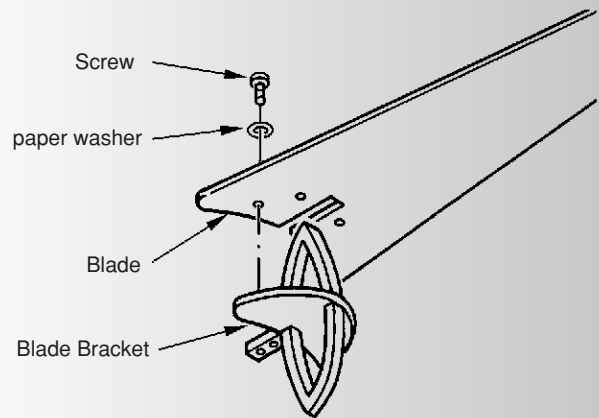

Fig. 16
Step 1. Attach the blade to the blade bracket using the screws and washers provided. Refer to Fig. 16 as needed. Start each screw into the bracket. Repeat for the two (2) remaining screws.
Step 3. Insert the blade assembly into one of the slots on the blade bracket ring, align the mounting holes on the blade bracket ring with the mounting holes on the inside of the bracket ring and insert two (2) mounting screws and tighten securely. Repeat this procedure for the remaining Two (2) blade assemblies. See Figure 16 as needed.